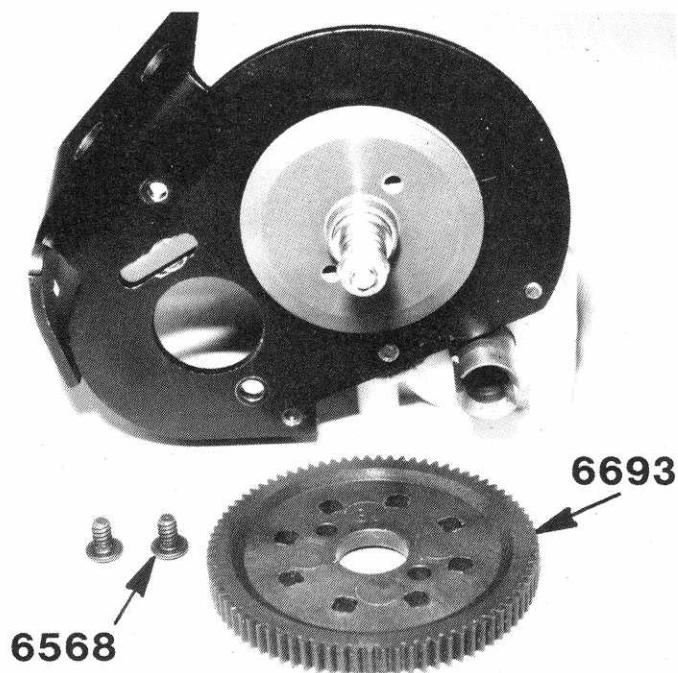

Fig. 66
□ **Figs. 66 & 67** Deburr the hole and mount the # 6693 81 tooth 48 pitch spur gear with the two #6568 mounting screws.